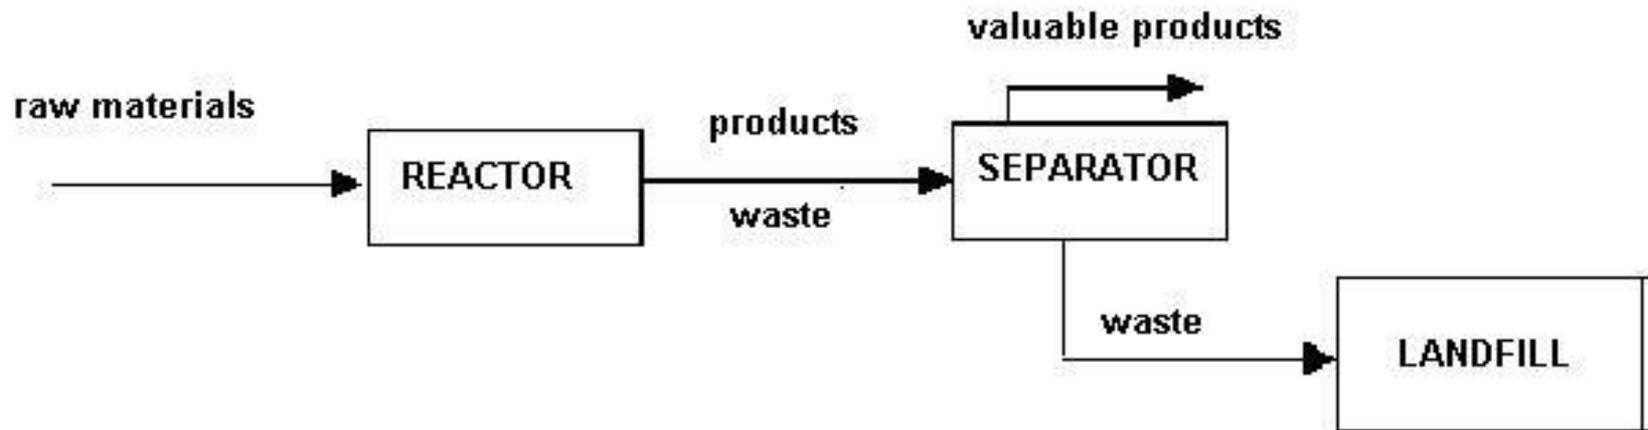

Fig. 5.8. Waste landfilling
- **waste disposal:** the output is sent to a separator, and the resulted waste are sent to an ecological landfill (Fig. 5.8):